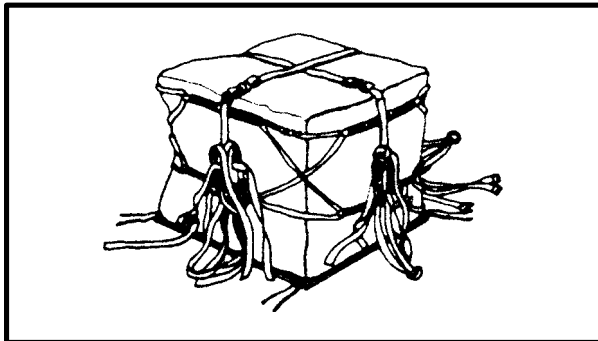

Figure 8-4. Securing the Strap
e. **Closing the Sling Assembly.** Route the 188-inch strap over top of the load. Route the free end under the floating safety bar (smooth side) and back over the friction adapter (rough side). Tighten the strap, fold in 4 to 5 inch loops, and secure (Figure 8-4).